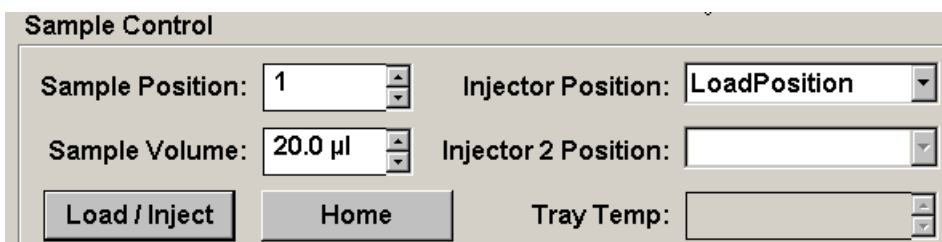

Figure 5-2. Control Panel Load/Inject Button
1. Verify that the autosampler output line is connected to port **S (5)** on the DC (or TC) injection valve. Direct the waste line as required for this autosampler model.
- Manually: Click the **Load/Inject** button on the **Autosampler** Control panel in Chromeleon or Chromeleon Xpress (see Figure 5-2).